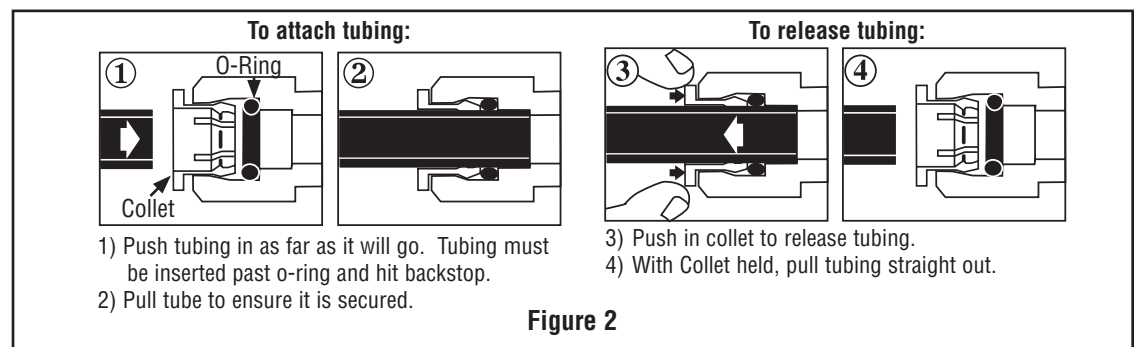

Figure 2
4. Connect the inlet port of the filter to incoming water line as shown in Figure 2.
2. Remove old filter by following instructions shown in Figure 2.
3. Connect the inlet port of the filter to incoming water line as shown in Figure 2.